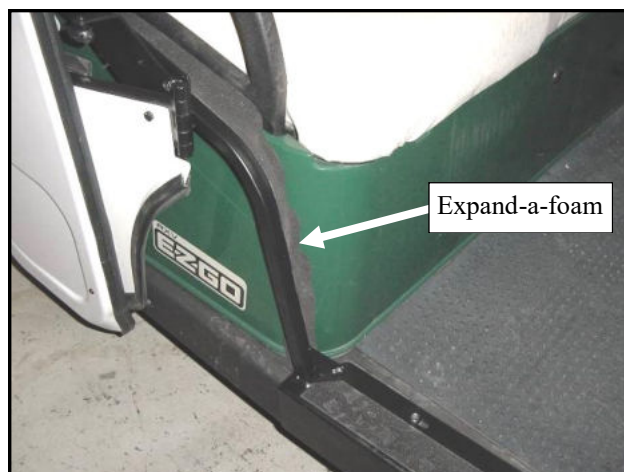

Fig. 12.1 (view from front of passenger's side)
12.1 Per fig. 12.1, the Expand-a-foam can be tucked in neater/tighter at the installer's discretion. Repeat for driver's side if desired.